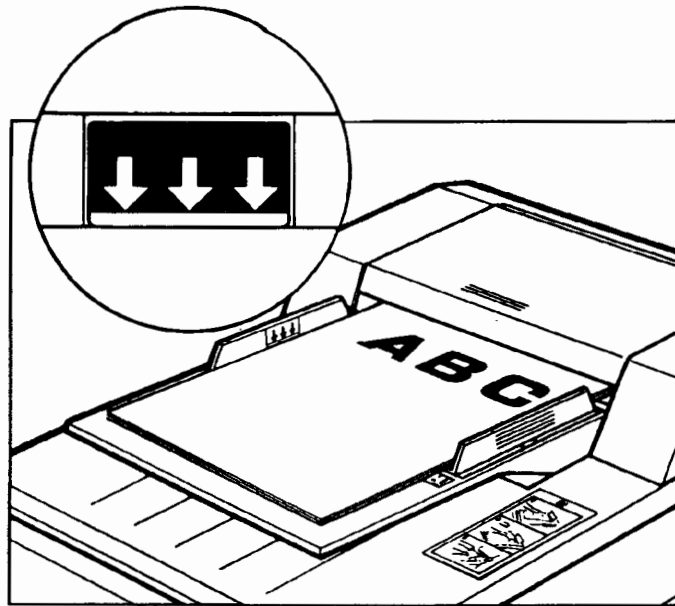

Figure D-8. Placing Paper in the ADF
5. Slide the paper stack forward as far as it will go into the ADF cover. The stack of pages should be no higher than the maximum document level mark. See figure D-8.